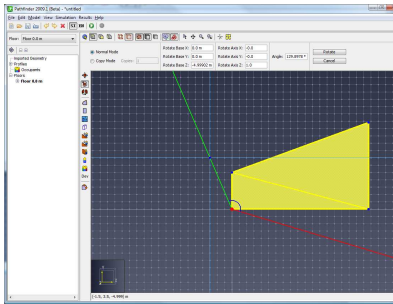

Figure 138. Reference line (red) and rotation angle (green)
- The second defines a reference vector extending from the rotation base (Figure 138).